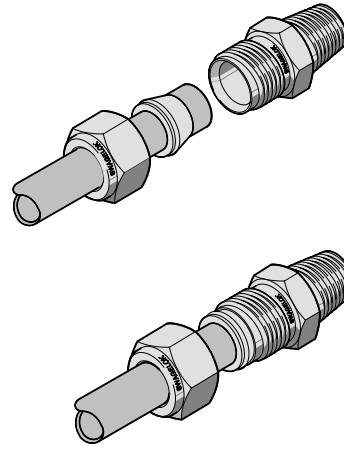

Fig. 15 Installing Preswaged Assembly into Fitting Body
1. Turn the nut onto the fitting body until fingertight. Fig. 15.